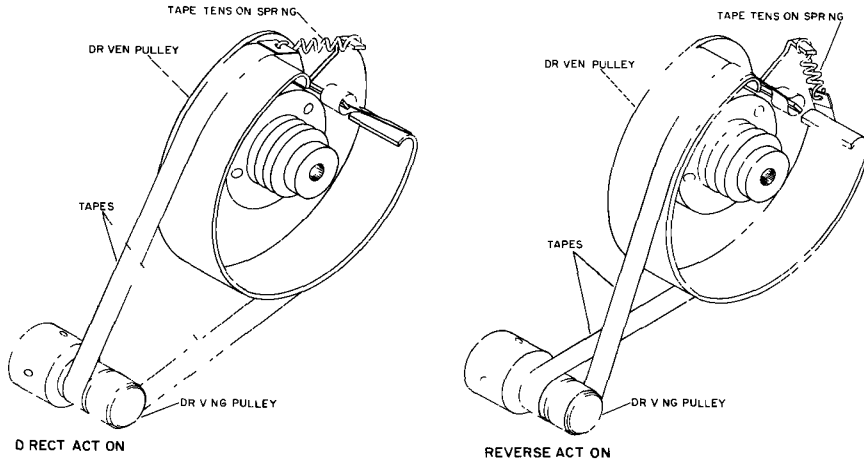

FIGURE 12 - Tape Drive Positions
5. Rotate driven pulley about 330° counterclockwise from original position. Upper tape will now become lower as in Figure 12 Reverse Action. (This is done without disengaging upper tape and spring.)
7. Rotate driven pulley about 330° counter clockwise from original position. Upper tape will now become lower as in Figure 12 Reverse Action. (This is done without disengaging upper tape and spring.)
3. Gain control action is 'direct' if an increase in gain control signal pressure is to produce an increase in Controller gain. If desired function requires a decrease in gain on a 1 increase in gain control signal pressure, unit must have 'reverse' gain control action. On reverse action gain control applications only, direction of gain arm rotation must be reversed as follows. Refer to Figure 12.
b. Rotate driven pulley about 330° counterclockwise from original position. Upper tape will now become lower as in Figure 12 Reverse Action (This is done without disengaging upper tape and spring.)